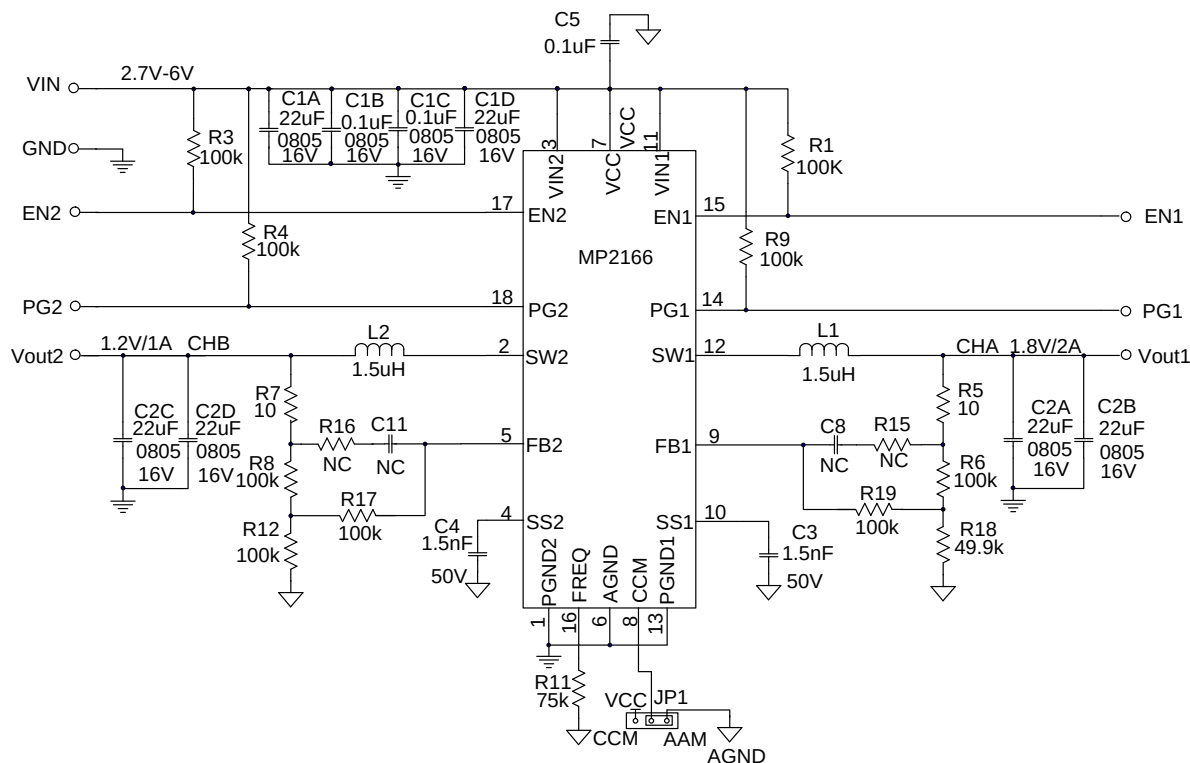

Figure 7: 2A/2A Application Circuit
- 6) The recommended PCB layout is based on Figure7